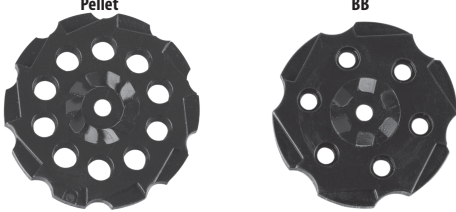

Fig 13
- Select the correct clip for the ammo you are using. (See Fig. 13)